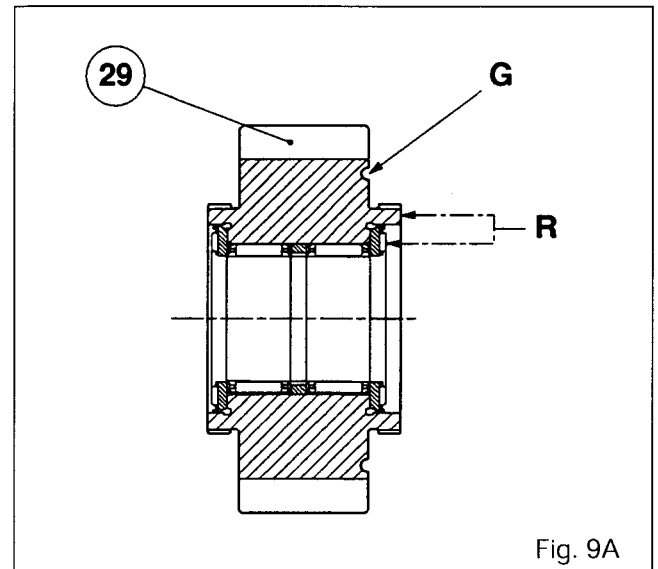
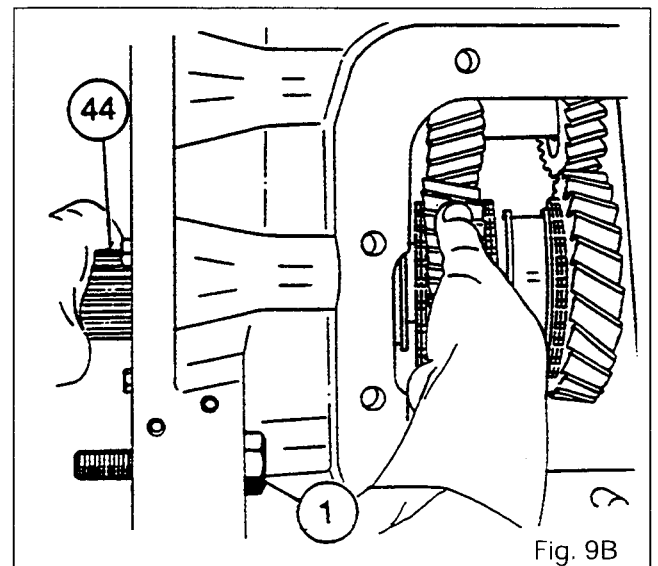

Fig. 9A
Fig. 9B
32. On a bench, pre-assemble the 3rd speed driving gear (29) with its synchro rings, bearings (79) and (81), washers (27) and (32) and synchromesh (31).
33. In the housing, install the Tortoise gear (36) with its synchro ring, the 3rd speed driving gear (29) (with recess "R" or groove "G" facing the 3rd - 4th speed synchromesh (Fig. 9A) and the synchromesh (31).
**Note : If bush (35) is damaged, replace the gear assembly (and rebores the bush after fitting). The needle-roller bearings (28) and (30) are separated by a spacer (80).**
34. Engage the output shaft (44) while holding the gear assembly (Fig. 9B).